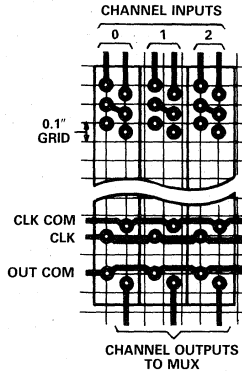
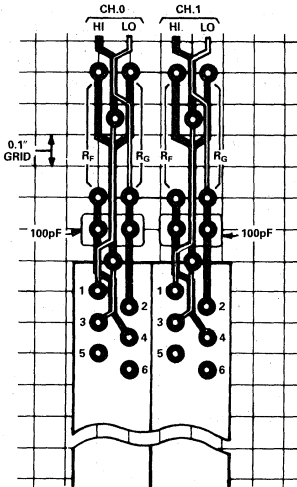

Figure 16a. PCB Layout for Multichannel Applications at  $G = 1$
Figure 16b. PCB Layout for Multichannel Applications with Gain
**PCB Layout for Multichannel Applications.** The pinout of the AD204 has been designed to make very dense packing possible in multichannel applications. Figure 16a shows the recommended printed circuit board (PCB) layout for the simple voltage-follower connection. When gain-setting resistors are present, 0.25" channel centers can still be achieved, as shown in Figure 16b.